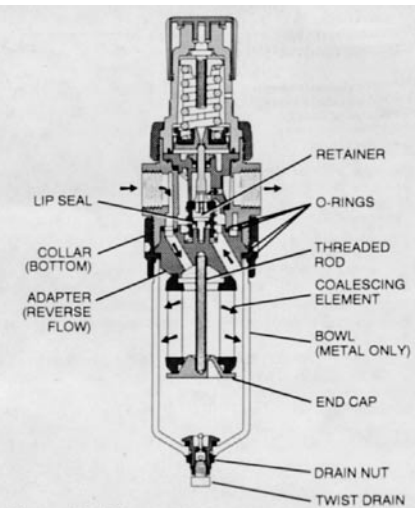

Figure 2: 12E
B. 12E Units (Refer to Figure 2.)
B. 12E Units - (Refer to Figure 2.)